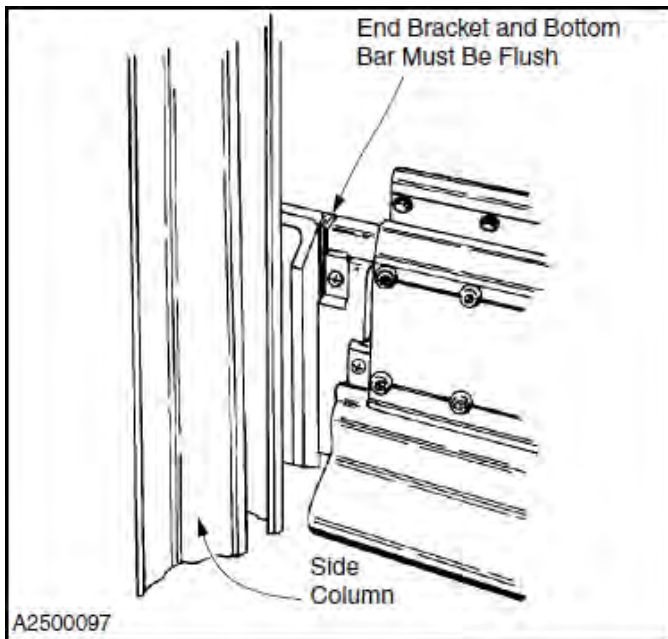

Figure 9
9. Check the alignment of the end bracket and the bottom bar assembly. They must be flush at the front and back edges. (See Figure 9.)